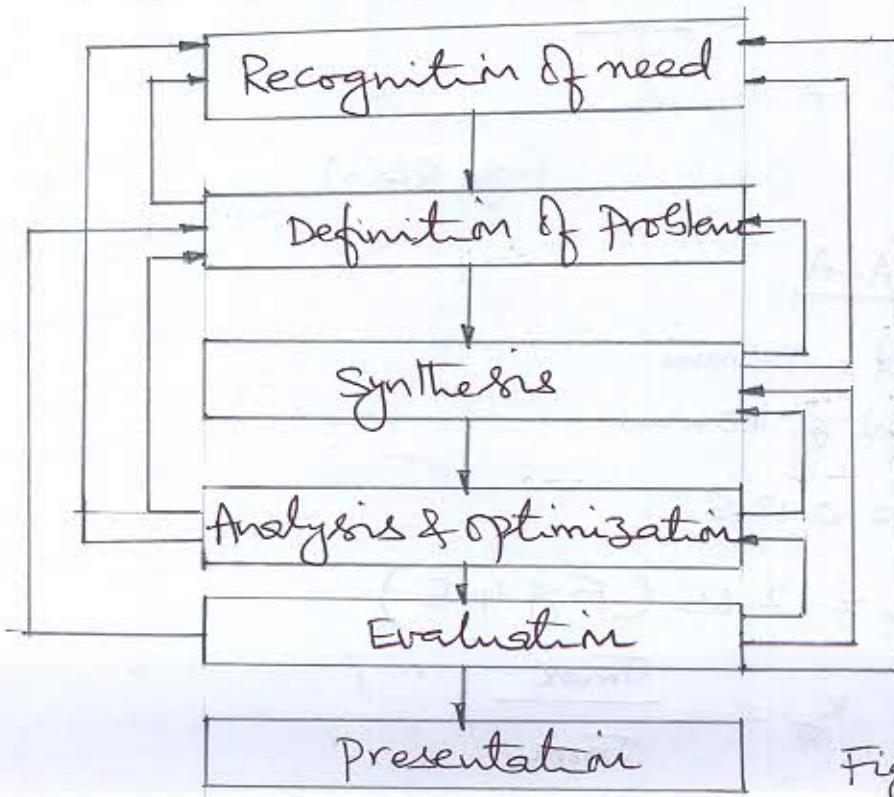

Fig 2(a)
The phases of design process (Shigley's) is represented in Fig. 2(a). The design process begins with recognition of need. After many iterations, the process ends with the presentation of plans for satisfying the need.
- 2(b) A flat bar shown in fig 2(b) is subjected to an axial load of 100 kN. Assuming that the stress in the bar is limited to 20 N/mm^2 , determine the thickness of bar.